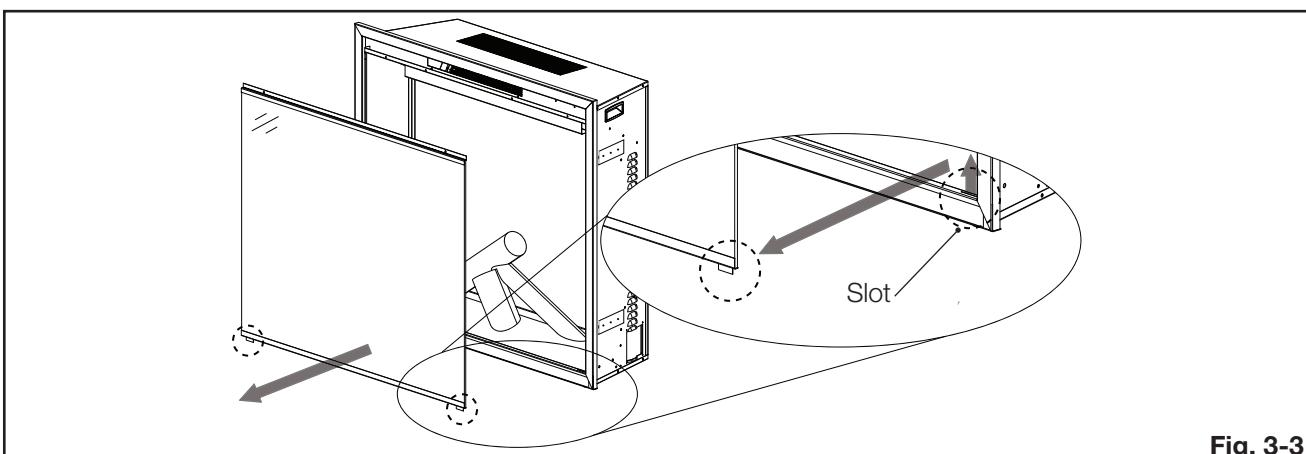

Fig. 3-3
3. Carefully lift the glass door out of the 2 slots in the bottom of the firebox (**Fig. 3-3**). Set the glass door on a soft, non-abrasive surface.